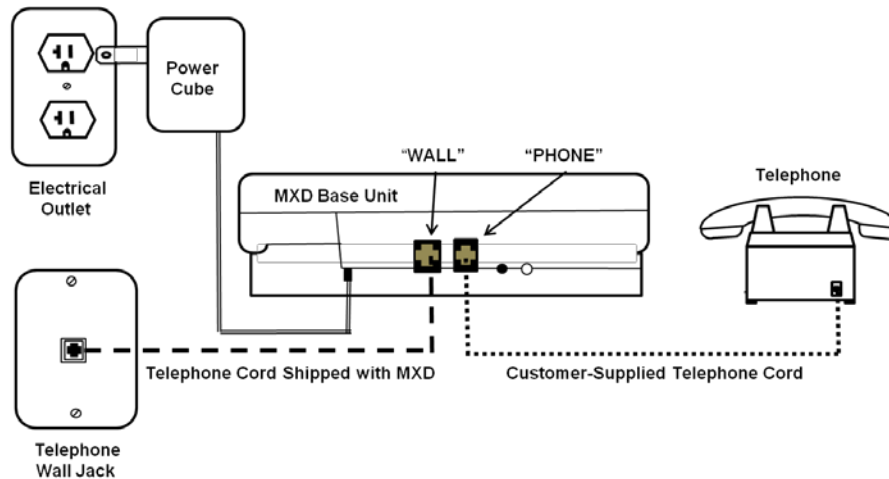

Figure 9. MXD Connection to Voice over IP (VoIP) Telephone Service
11. After connection to VoIP has been achieved, continue with steps 3 - 7 of the System Setup for Locations with Plain Old Telephone Service (POTS). See Figure 9 below.